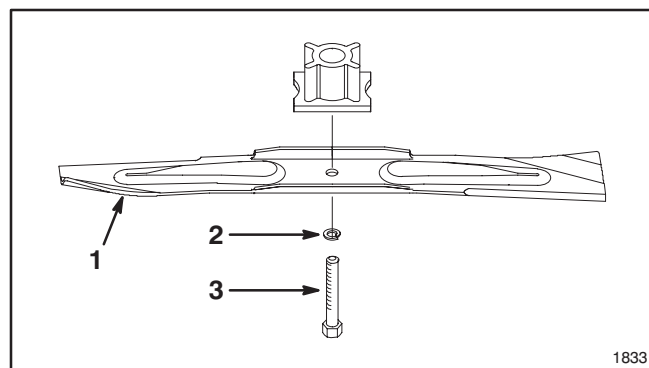

Figure 24
5. REMOVING BLADE—Grasp end of blade using a rag or thickly padded glove. Remove blade bolt, lockwasher and blade (Fig. 24).